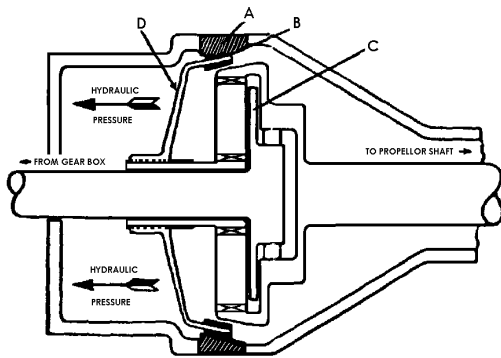

Fig 3. Overdrive in operation.
When overdrive is engaged (Fig. 3) a valve in the unit is opened, applying hydraulic pressure from the pressure accumulator to two pistons which work in cylinders formed in the unit housing. These pistons exert pressure against the cone clutch member, overcoming the spring pressure and pushing the cone clutch (D) away from the annulus until the outer lining (B) presses against a conical brake ring (A) built into the main casing.